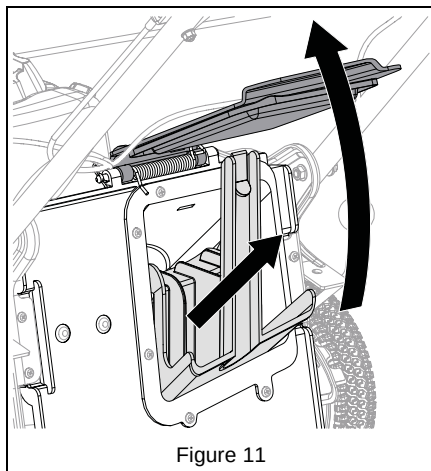

Figure 11
4. Lift rear door and remove mulch plug. See Figure 11.